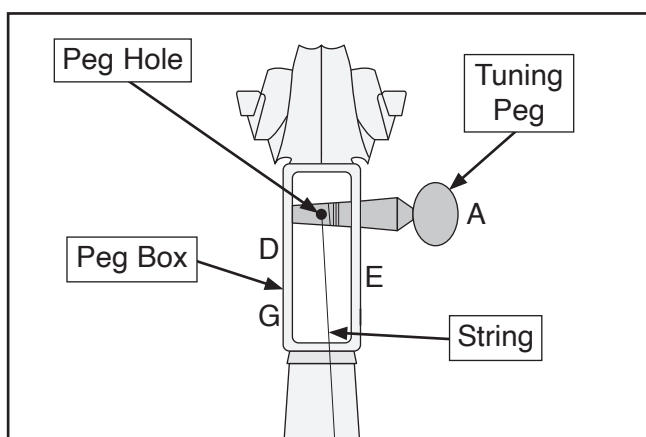

Figure 24. Winding strings through tuning peg.
2. Insert tuning peg in peg box and turn peg so that hole in peg is facing up (see **Figure 24**).
3. Thread sharp end of string through peg hole (see **Figure 24**).
4. Turn peg clockwise a few times to secure string to peg (see **Figure 24**).
7. Turn fine tuner knobs clockwise to reach accurate pitch (see **Figure 24** on **Page 16**).